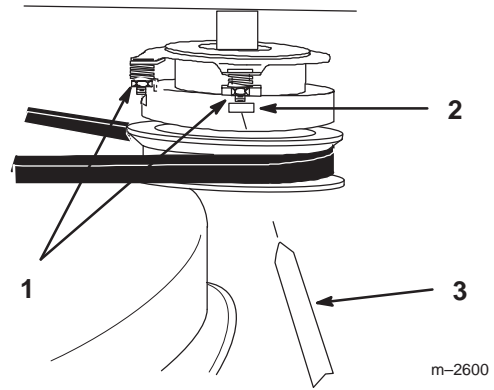

Figure 35
1. To adjust clutch, tighten or loosen lock nuts on flange studs (Fig. 35).
2. Check adjustment by inserting feeler gauge thru slots next to studs (Fig. 35).